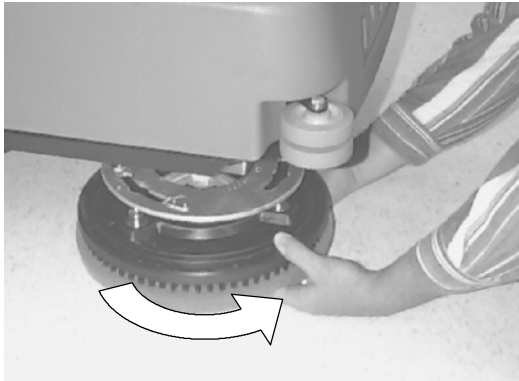

FIG. 8
6. Attach brush/pad drivers to motor hubs. Align (3) mounting studs with slots in motor hub. Give driver a quick turn toward spring clip located on motor hub. Be certain pad driver is securely fastened and spring clip locks into one of the studs before operating machine (Figure 8).